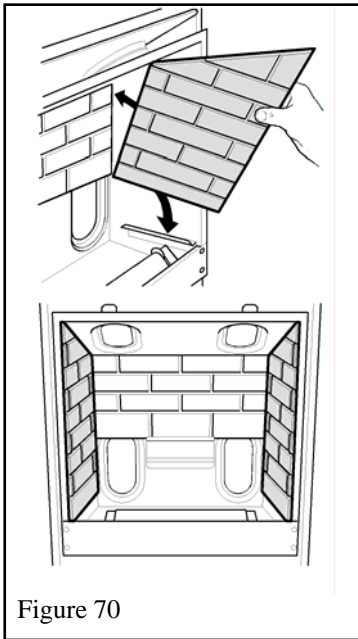

Figure 70
2. Locate the side walls in the channels at the sides of the firebox. See figure 70.